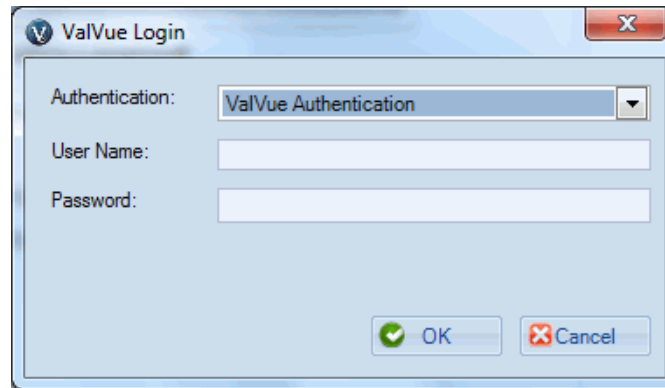

Figure 8 ValVue Login
1. Select **Start > All Programs > Masoneilan > ValVue3 > ValVue** and Figure 8 appears.